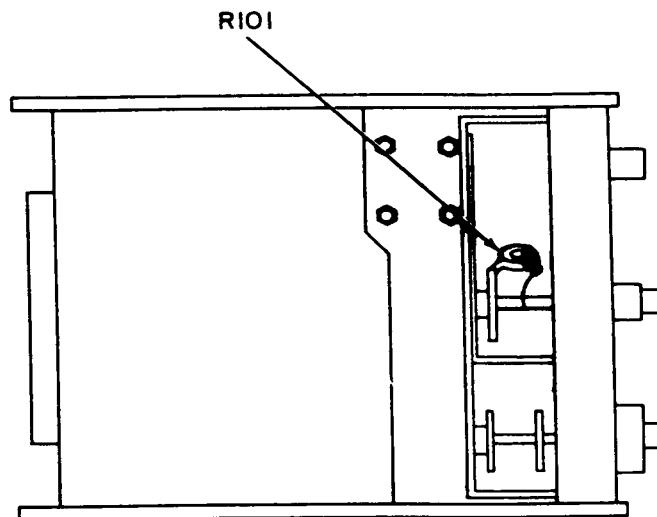

Figure 7. Model 415D- bottom view.
- (1) Turn and hold BIAS CHECK control in fully cw position while adjusting BOLO BIAS ADJ HIGH (rear panel) for an 8.7-mA indication on BOLO BIAS scale.
- (2) Adjust R101 (fig. 7) until dc voltmeter indicates 1.74 V (R).